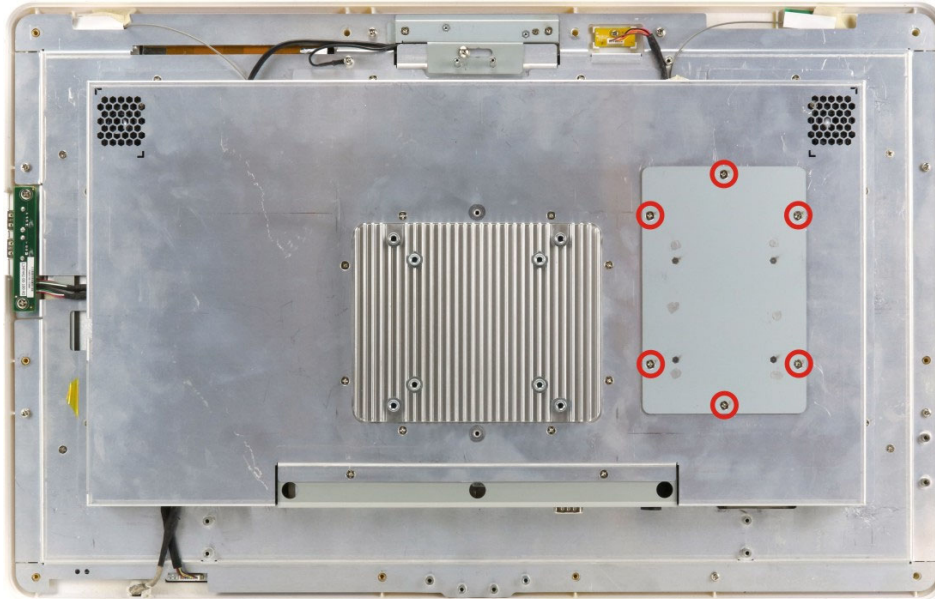

Figure 3-2: HDD Bracket Retention Screws
Step 3: Remove the six HDD bracket retention screws (**Figure 3-2**) and lift the HDD bracket off the panel PC.
Step 7: Replace the HDD bracket by securing the six retention screws previously removed (Figure 3-2).